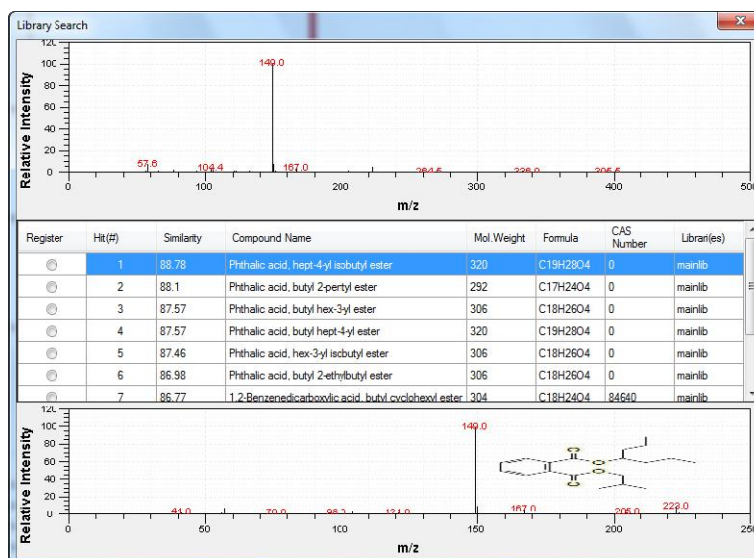

Figure 7-9 Search from NIST and Preview
- (6) Click the right mouse button on the centroidal mass spectrogram, select [Search from NIST and Preview...] and preview the search results, as shown in Figure 7-9.